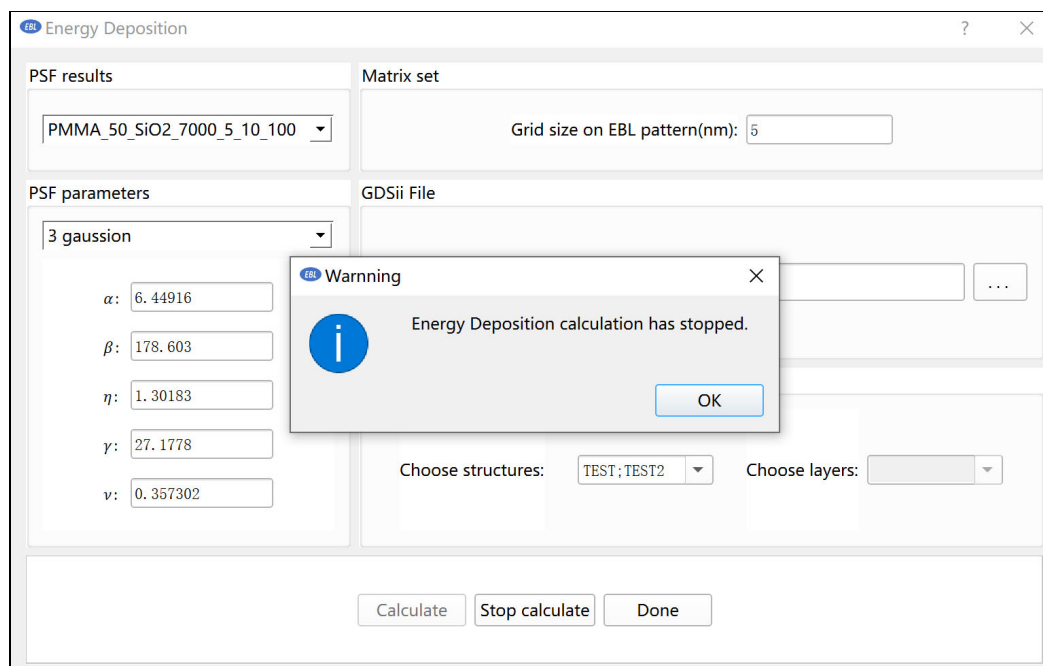
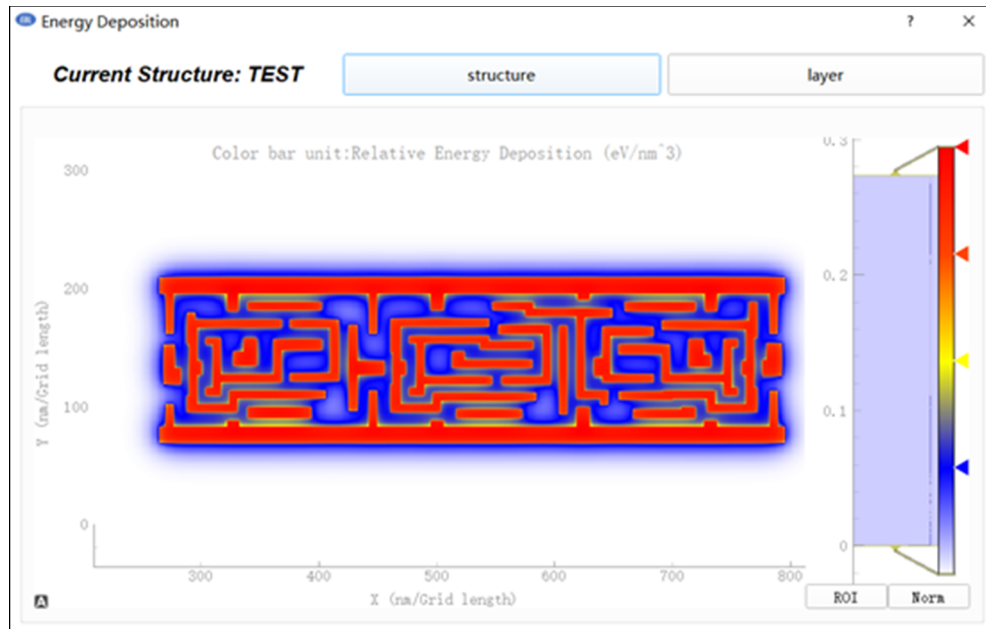

Figure 2.8.3 Stopping energy deposition calculation
Figure 2.8.4 Energy deposition result
- 7) You can click "Stop Calculation" to stop the current calculation (Figure 2.8.3).
- 8) After the energy deposition calculation is completed, you can click "OK" in the dialog box shown in Figure 2.8.3, and a dialog box showing the results of the layout energy deposition calculation will pop up automatically (Figure 2.8.4). (Note: the